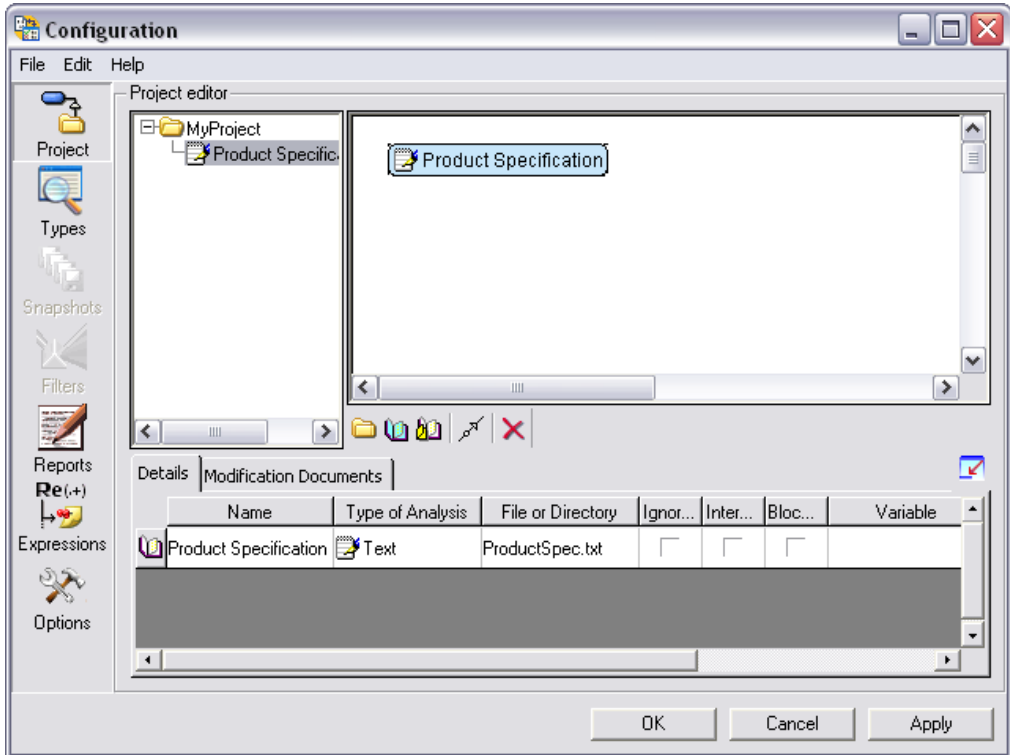

Figure 2-2. Adding a Document to a New Project
4. Click in the **File or Directory** column. The File Browse button, shown at left, becomes visible on the right side of the control. Click the **File Browse** button and select `<Requirements Gateway Public>\Tutorial\ProductSpec.txt`. Figure 2-2 shows the Configuration dialog box after you add the Product Specification document.